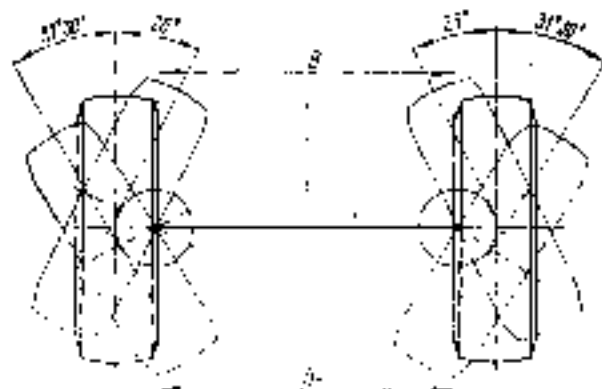

Fig. 102. Positions of Steerable Wheels.
Adjusting the front wheel toe-in. For checking the toe-in of the front wheels, see that the tyres have been inflated to the rated pressure and measure distance B_1 and B (Fig. 102) across the wheel rims. For checking:
- using a measuring rule, check distance B_1 between the wheel rim heads in the rear section at the level of wheel centres and mark these points. Roll the truck so that these marks are in front and check distance B . In front the distance must be 1—3 mm less than that at the rear. If the difference of the distance measured between B and B_1 is beyond the limits, readjust by changing the length of the lateral steering rod after slackening the bolts on the lateral steering rod ends. On readjusting the toe in, tighten the rod end fastening bolts and check angles of turn of the wheels; the data of these angles are given in Fig. 102. Angles of turn are limited by thrust bolts.